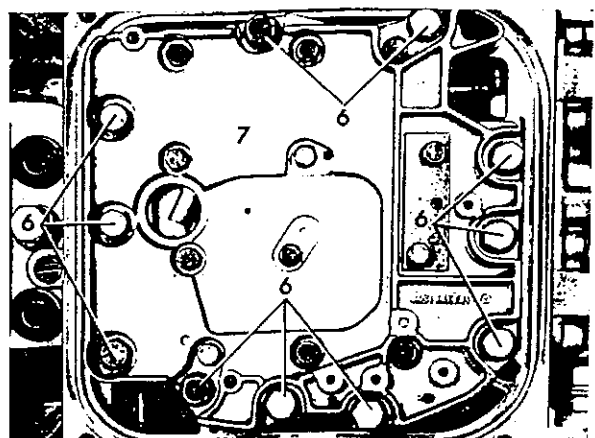

Fig. 4
Remove bolts (6) of valve body (7). Place range selector lever between positions "P" and "R" and remove valve body **Fig. 4**